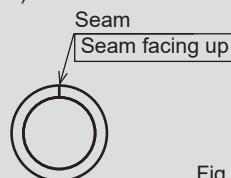

Fig.6-7
- Wrap insulation material with the seam facing up. (Refer to Fig.6-7)